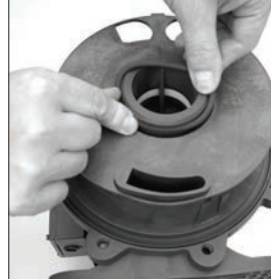

Figure 50
13. Lubricate the inner volute o-ring (item 5) with a chemically compatible lubricant and install in the groove on the round suction nozzle in the center of the inner volute. See figure 50.